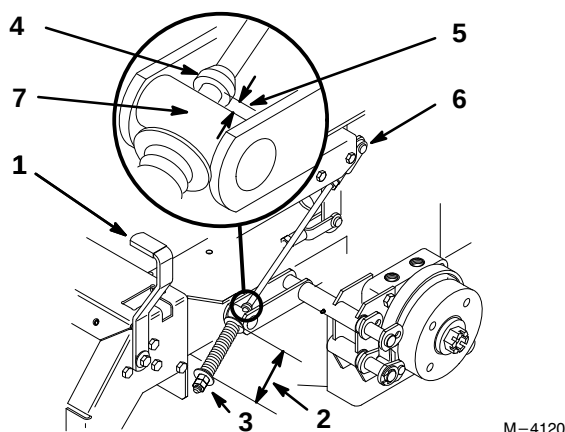

Figure 52
2. Measure the length of the spring. Measurement should be 2.75" (70 mm) between washers (Fig. 52).
3. If adjustment is necessary, loosen the jam nut below the spring and tighten the nut directly below the yoke (Fig. 52). Turn the nut until the correct measurement is obtained. Tighten the two nuts together and repeat on opposite side of unit.
6. Measure the distance between the trunnion roller and the collar on brake rod . Measurement should be 3/16"–1/4" (5–7 mm) (Fig. 52).
7. If adjustment is necessary, loosen the jam nut directly below the yoke. Turn the bottom adjusting nuts until the correct measurement is obtained (Fig. 52). Tighten jam nut at yoke